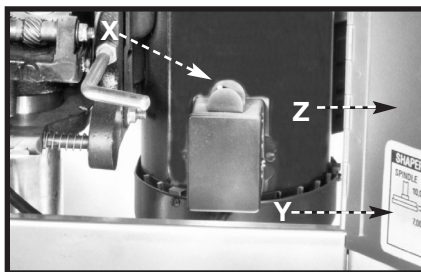

Fig. 27
A chart (Y) Fig. 27 that illustrates the correct belt placement for 7,000 or 10,000 RPM is located on the inside panel of the motor access door.
1. Open motor access door (Z) Fig. 27.
The motor is equipped with a reversing switch (X) Fig. 27, located on the motor junction box.